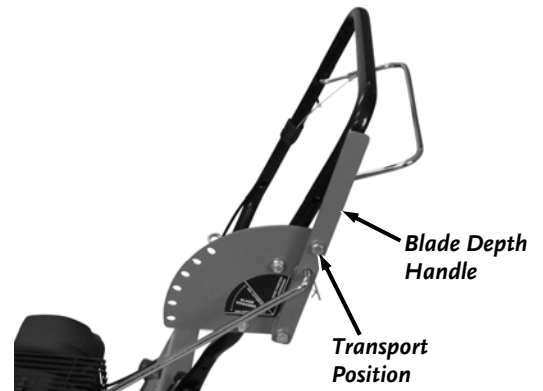

Figure 24
1. Position the Height Adjust Handle at the transport position to lift the Spindle off the ground (**Figure 24**).